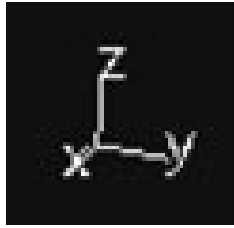

FIGURE 1.39
**Figure 1.39** shows the geometry axis: